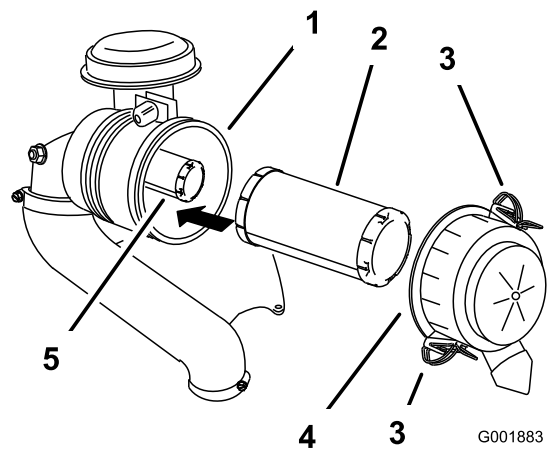

Figure 49
5. Gently slide the primary filter out of the air-cleaner body (Figure 49).
3. Release the latches on the air cleaner and pull the air-cleaner cover off the air-cleaner body (Figure 49).
2. If you are replacing the inner filter, carefully slide it into the filter body (Figure 49).
- Carefully slide the primary filter over the safety filter (Figure 49).
- Install the air-cleaner cover and secure the latches (Figure 49).